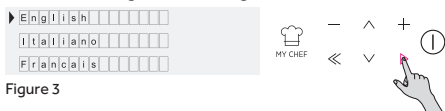

Figure 3
• Press OK to go ahead. (Figure 3)